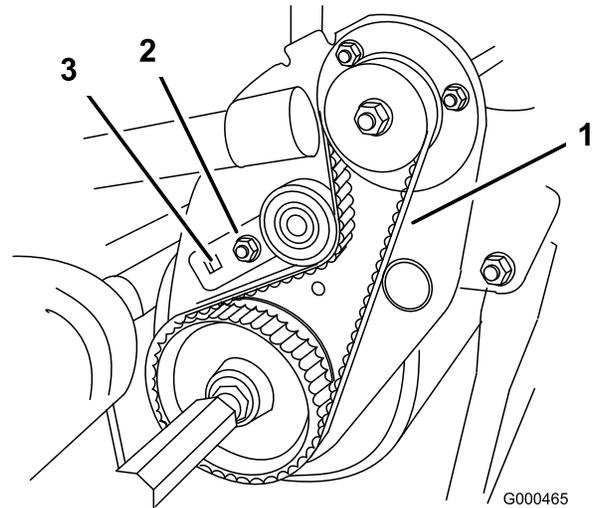

Figure 47
- B. Using a $3/8$ inch drive torque wrench, rotate the idler bracket with 35-40 in.-lb. of torque to set the belt tension (Figure 47). While holding the torque wrench setting, tighten the idler bracket mounting bolt (The tang washer is installed to prevent the belt from slipping). Do not over-tension the belt.